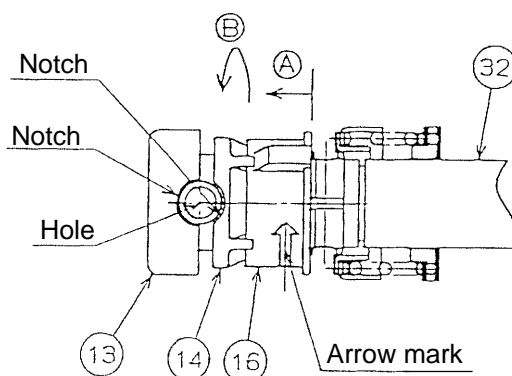

Fig. 16
Remove the Retaining Ring (E-Type) for D14 Shaft [2] from Plunger (A) Set [32] with a flatblade screwdriver. At this time, be careful that Spring (A) [19] is pushing against the retaining ring. Next, slide the Guide Washer [17] backward and remove the two Steel Balls D4.76 [15]. Move Holder Sleeve (B) [14] backward and adjust the position of the notch on Holder Sleeve (B) [14] (see Fig. 16) then remove the Holder Pin [11] and Spring (B) [12] with a magnet. At this time, be careful not to damage Spring (B) [12] by applying undue force or forgetting to remove it. Remove Holder Sleeve (A) [13], Holder Sleeve (B) [14], Holder Sleeve (C) [16], Guide Washer [17], Dust Washer [18], Spring (A) [19], Washer (D) [20], Thrust Bearing [21], Washer (E) [1] and Washer (F) [3] from Plunger (A) Set [32].
Next, align the hole of the Plunger (A) Set [32] with the notches of Holder Sleeve (A) [13] and Holder Sleeve (B) [14] and then insert Spring (B) [12] and the Holder Pin [11] into the hole. Push in the Holder Pin [11] to eject Holder Sleeves (B) [14] and (C) [16] forward (as shown in (A) Fig. 16). Turn them about 90° counterclockwise viewing from the tip (as shown in (B) Fig. 16), then insert the two Steel Balls D4.76 [15] (in the direction of the arrow marks shown in Figs. 16 and 17). Slide all the parts up to Washer (E) [1] forward (as shown in (C) Fig. 17) and mount the Retaining Ring (E-type) for D14 Shaft [2] securely by adjusting Spring (A) [19]. Be careful of the projections and depressions on Holder Sleeve (B) [14] and Holder Sleeve (C) [16] when mounting. After reassembly, test mount and remove a saw blade to check for proper operation.